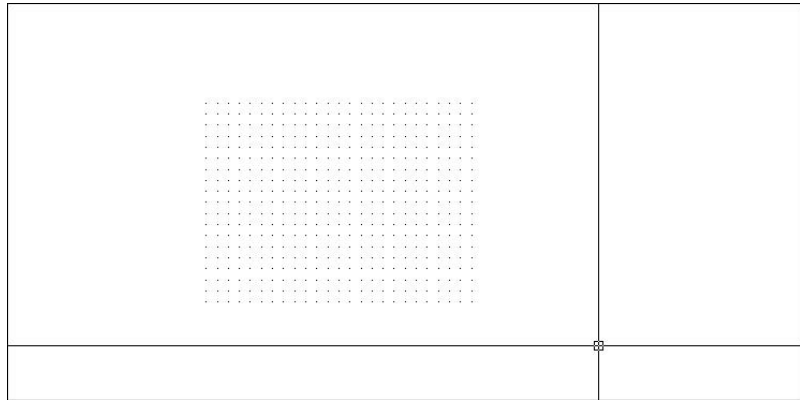

FIGURE 3.5: The grid after zooming out
3. For a better view of the entire grid, use the Zoom Out command. From the drop-down menu, choose View > Zoom > Out. The view changes, and the grid appears smaller (see Figure 3.5). Move the crosshair cursor to the lower-left corner of the grid, and then move it to the upper-right corner. Notice the coordinate readout in the lower left of your screen. These two points should read as approximately 0'-0",0'-0" and 1'-0",0'-9", respectively.
6. On the same menu, use the Zoom In tool enough times to bring the view of the grid back to the way it was in Figure 3.5. You are not changing the size of the grid, just the view of it. It's like switching from a normal to a telephoto lens on a camera.